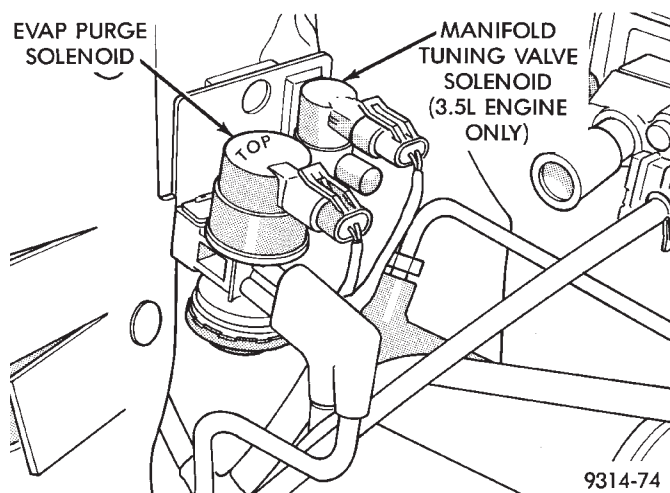

Fig. 43 EVAP Purge Solenoid and MTV Solenoid
panel (Fig. 43). The top of the solenoid has the word TOP on it. The solenoid will not operate unless it is installed correctly. If the vehicle is equipped with a 3.5L engine, the EVAP solenoid shares a common mounting bracket with the MTV solenoid.
- (1) Remove air cleaner tube.
- (2) Disconnect electrical connector from EVAP solenoid and, if equipped, the MTV solenoid (Fig. 43).
- (3) Disconnect vacuum harness from solenoid(s).
- (4) Remove solenoid bracket mounting screw. Remove bracket and solenoid(s).
- (5) Lift solenoid up off of bracket.